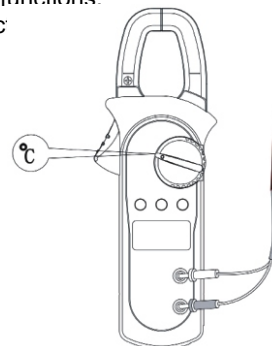

Figure 10
8. Temperature measurement (°C) (shown in Figure 10)